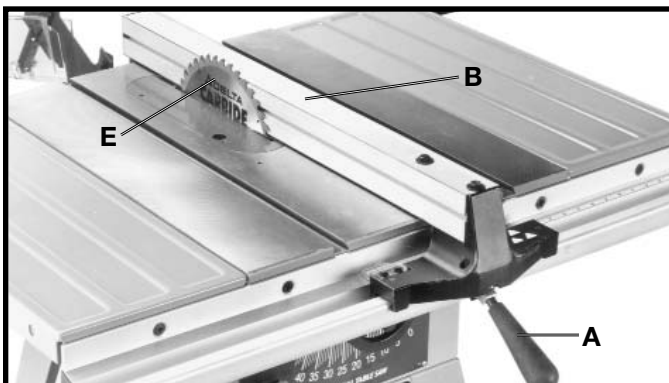

Fig. 48
6. Once the rip fence is aligned with the miter gage slot, raise the saw blade (E) Fig. 48, to its highest position, as shown. Slide rip fence (B) against the saw blade (E) and lock the fence in that position by pushing down on handle (A).